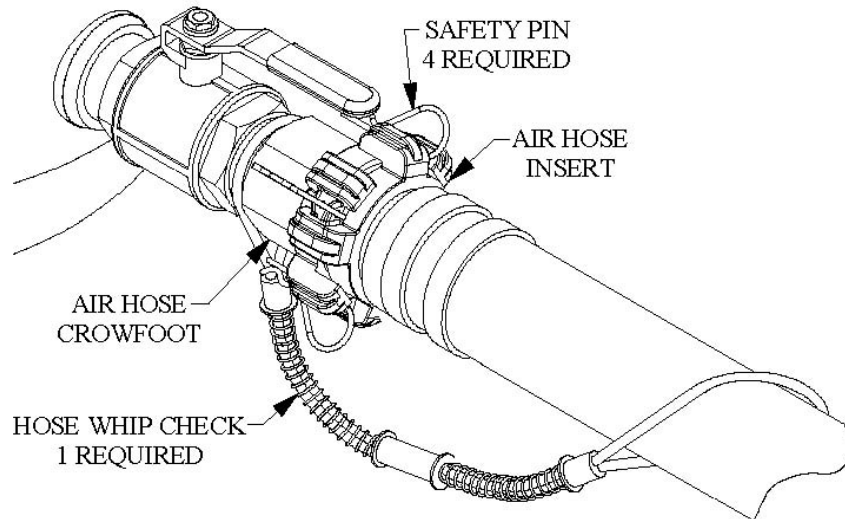

Figure 8.1 – Hose Connection Disconnect Protection
- 8.8. All air hose couplings have pin holes that align when connected. To prevent accidental hose disconnections safety pins must be installed through these holes. Each hose connection must also include a hose whip check that will hold the hose if there is an accidental disconnection. Connect one loop to each side of the connection and stretch out as shown in Figure 8.1 below. Check hose connections daily and replace missing or damaged pins and whip checks.